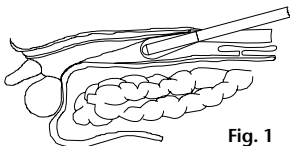

Fig. 1
- If necessary, put sterile lubricant onto the distal end and introduce it between the tissue layers to be separated using an open method. While introducing the balloon system and during the surgical intervention, make sure that the balloon is not damaged by other instruments. (Fig. 1) Alternatively, you may replace the blunt obturator of the (bilateral) PAJUNK® dilating balloon system by an endoscope at the beginning of the procedure in order to introduce it under sight. Make sure not to apply too much pressure when introducing the endoscope to avoid damage to the balloon.